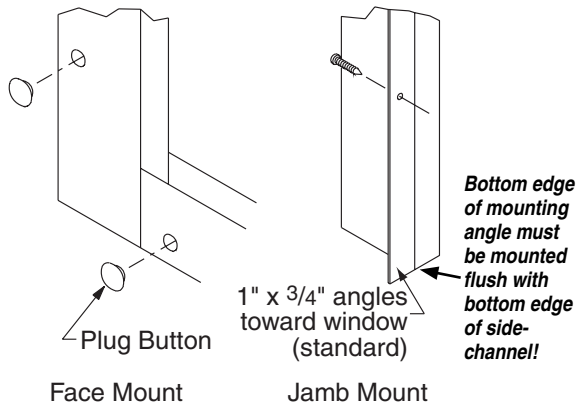

Figure 7
B. For face mount, side channel mounts on the surface of the wall or window mullion. Fasteners go through the side channels. Plug buttons should be used to cover holes (access and mounting holes will be pre-drilled) (see Fig. 7).
C. For inside or jamb mount, attach mounting angles to side channels. Install side channel with mounting angle toward window, if depth will allow, so it is not visible (it can also be installed toward the room). The bottom edge of the mounting angle must be mounted flush with the bottom edge of the side-channel. Fasteners will go through the mounting flange (see Fig. 7).